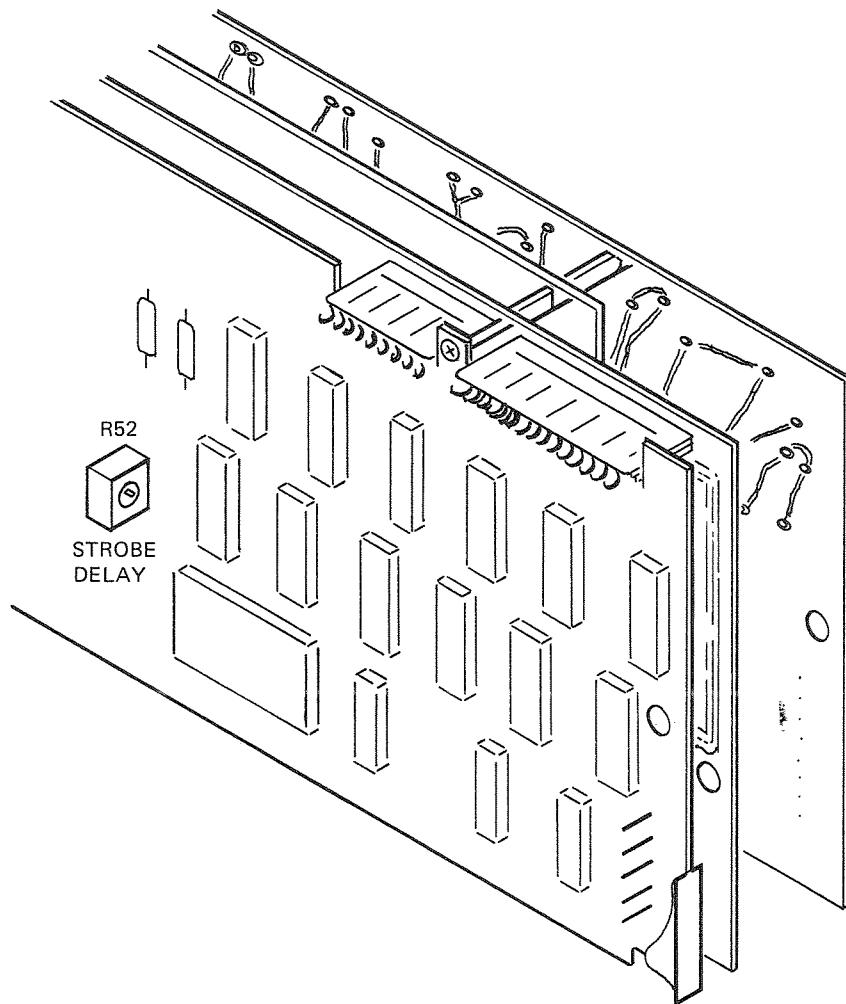

Fig. 11. Location of STROBE DELAY (R52) adjustment on the Memory Controller & Address Driver board.
13. Adjust STROBE DELAY (R52) slowly counter-clock-wise (CCW) until Data Bit dropping just starts to occur, or until the CCW limit of the control is reached. (The STROBE DELAY adjustment is located on the Memory Controller & Address Driver board, approximately 5 inches back from the front edge, and approximately 1½ inches up from the bottom edge. Fig. 11 shows the location).